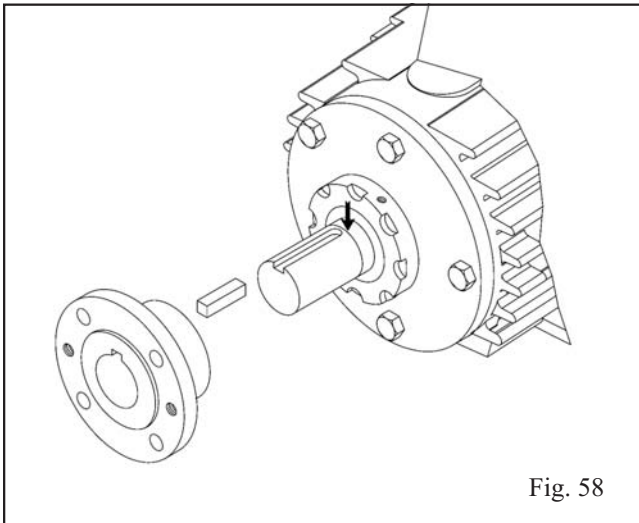

Fig. 58
Install key and pump half coupling hub on shaft (122) until hub is flush with the scribe mark determined during disassembly (Fig. 58). Refer to coupling manufacturer's instructions for assistance.